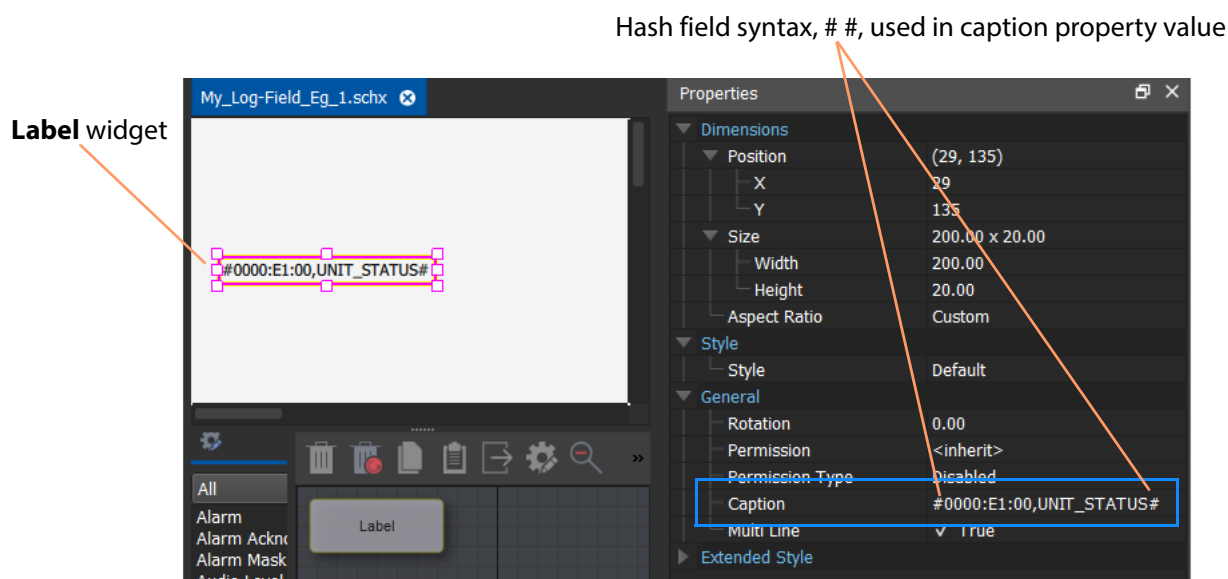

Fig. 8-4: Hash Field Syntax
- 2 Set the 'Caption' property to #0000:E1:00,UNIT_STATUS#, see Figure 8-4.